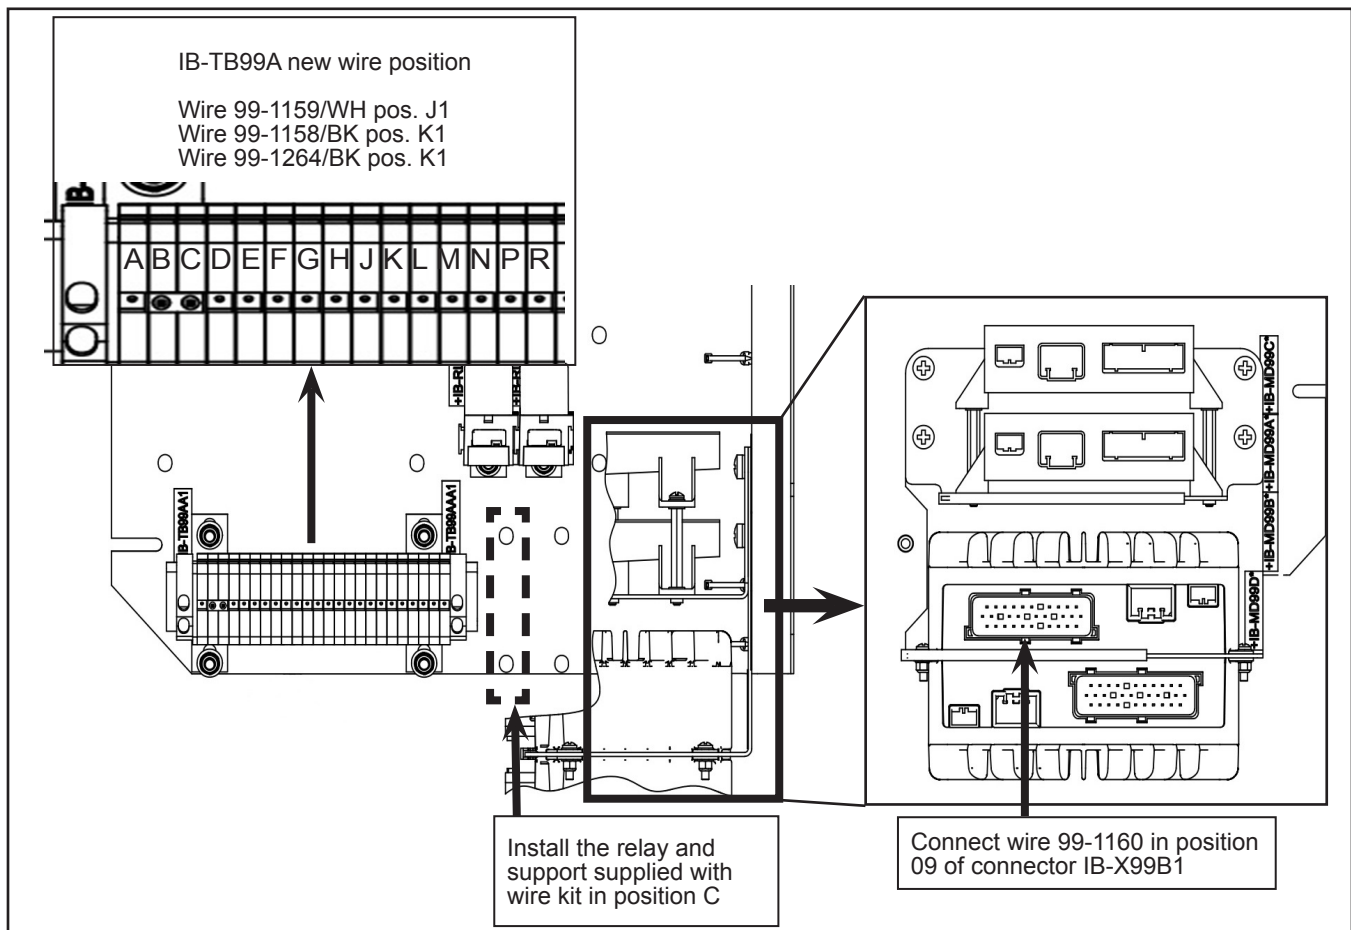

Figure 1 - N632000163 Wire and Relay Position in IB Panel
- 1.3. Bolt the relay support included in kit N632000163 in position C. See Figure 1.
- 1.4. Disconnect connector **IB-X99B1** from module 54 and remove wire 99-099 from position **09**. Cut the terminal and install heat-shrink tubing at the end of the wire. See Figure 1.
- 1.8. Connect wire 99-1159/WH in terminal block **IB-TB99A** position **J1**. See Figure 1.
- 1.9. Connect wire 99-1158/BK in terminal block **IB-TB99A** position **K1**. See Figure 1.
- 1.10. Connect wire 99-1264/BK in terminal block **IB-TB99A** position **K1**. See Figure 1.